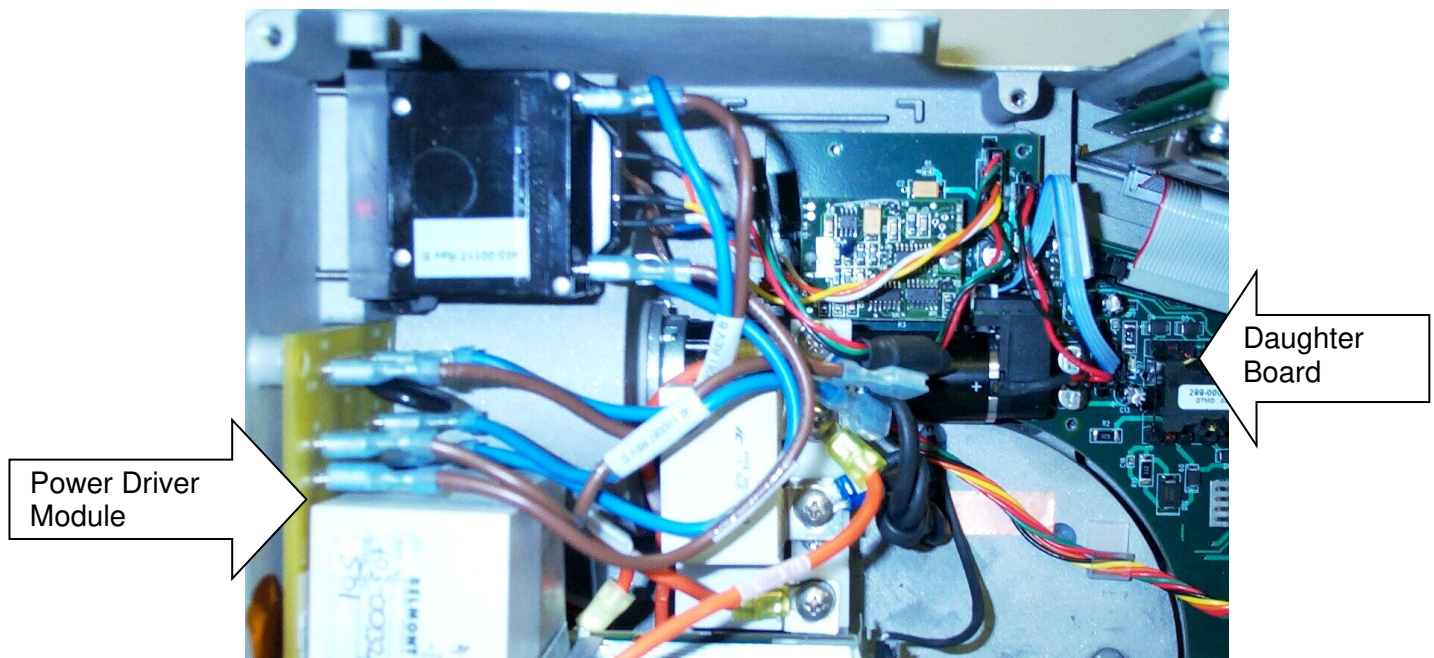

Figure 4: Attach cables and lugs as shown
2. Reattach Daughter PCB Cable. Figure 4.
3. Reattach 4X lugs to circuit breaker. Figure 4.